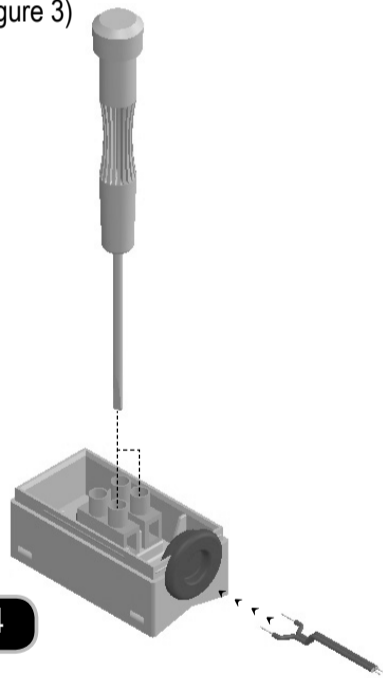

Figure 4
2) Connect cables to terminal block. (See Figure 4)